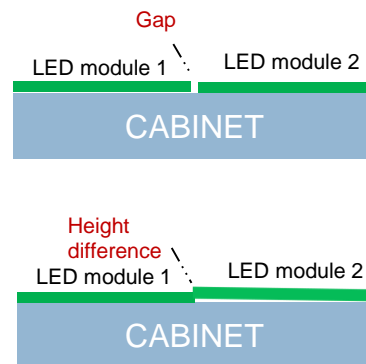
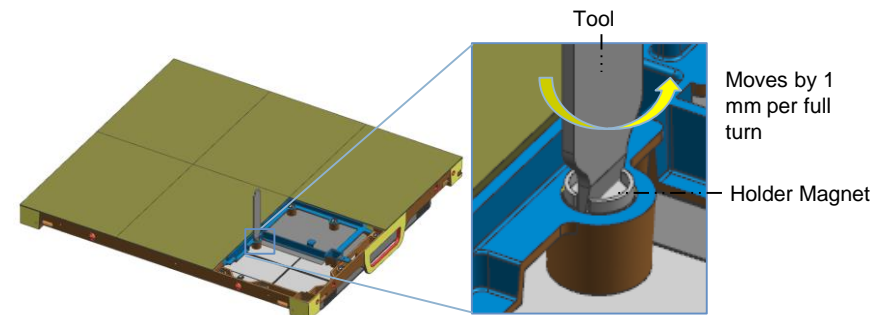

Fig.2 Gap / height difference between modules
Fig.3 Adjusting height difference
- ② Check for a gap or significant height difference between modules. (See Fig.2.)
- ③ If a gap is found, move the modules with hands, beginning from the outer modules.
- ④ If a significant height difference is found, disassemble the lower LED modules and adjust the height by turning the Holder-Magnet with an appropriate tool.
- ※ If the Holder-Magnet is turned halfway and then turned 360 degrees with the tool, the module height is moved by 0.1 mm (Fig.3).